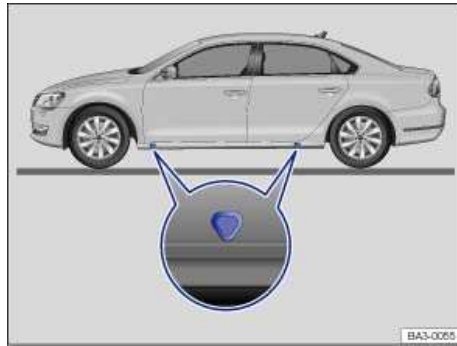

Fig. 211 Lift points for the jack.
The jack must be positioned at one of the four lift points marked on the vehicle body (2 on each side as shown in ⇒ fig. 211). You must use the lift point closest to the wheel being changed ⇒ ⚠.
7. Find the jack lift point ⇒ fig. 211 on the vehicle frame that is closest to the wheel to be changed.